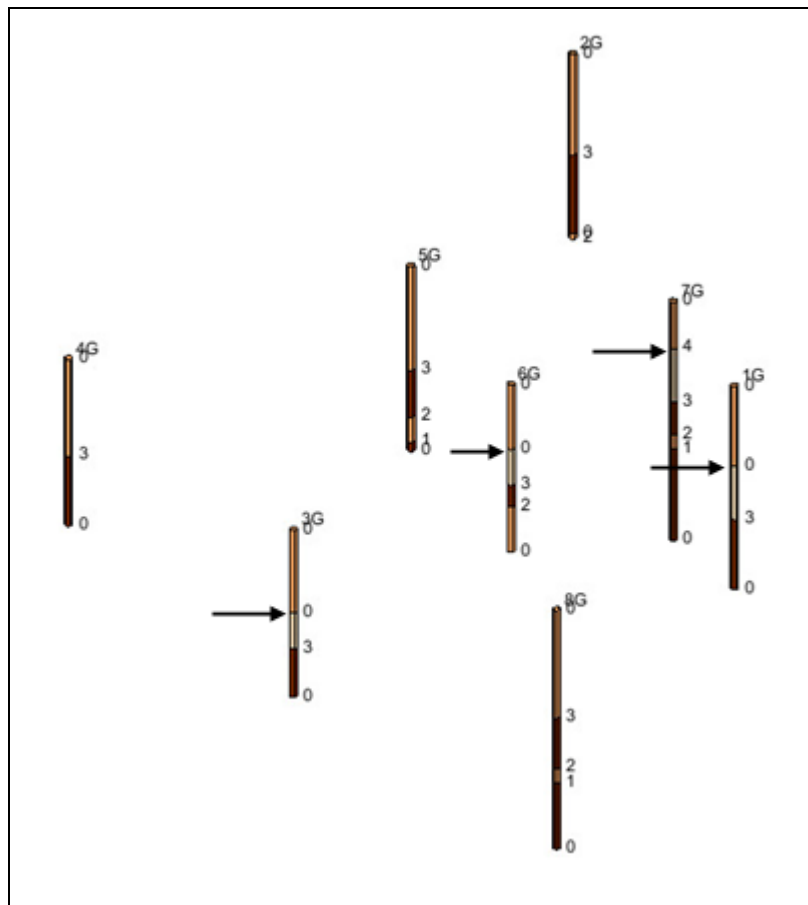

Figure 7 Contacts for Horizon 4
5. Using the **Select Contacts**  tool and the *Shift* key, select all of the contacts at the top of the clean sand material as seen in Figure 7.